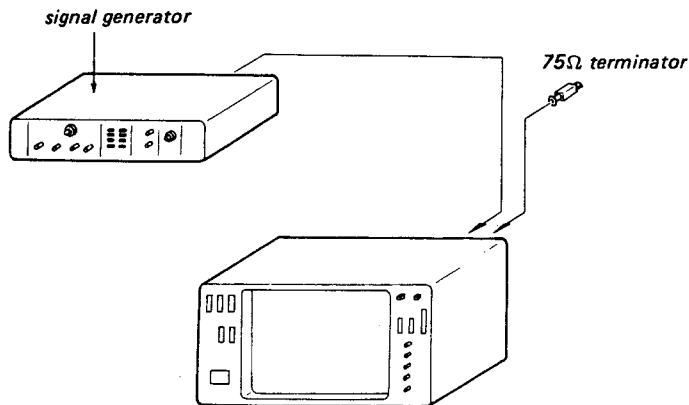

Fig. 5-175.
1. Complete the connections as shown in Fig. 5-175.